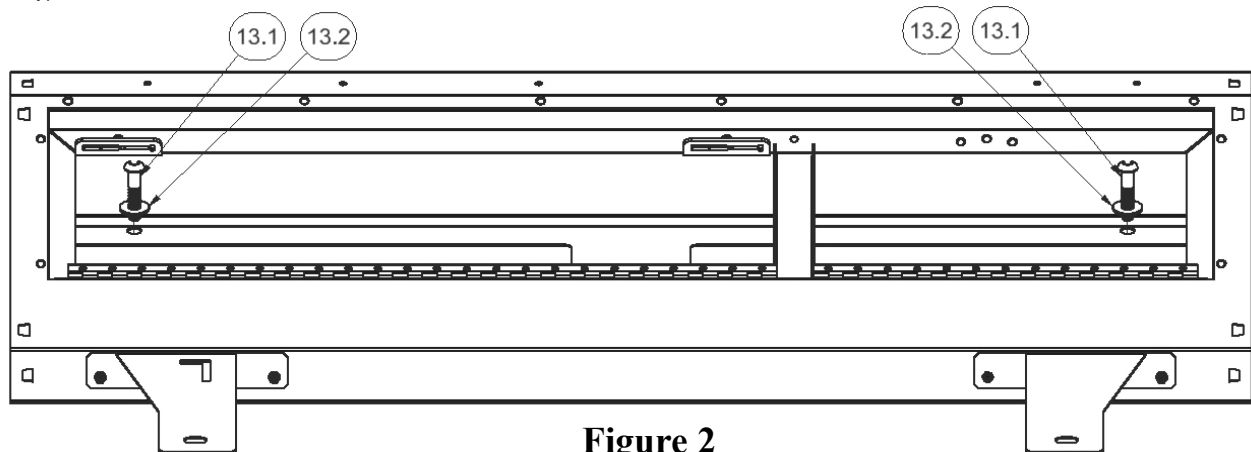

Figure 2
4. Remove the (7) Factory Rubber Bumpers from the top of the plastic storage enclosure. Five (5) are located at the top of the plastic enclosure, and two (2) are found at the rear on either side, near the rear mounting points. **NOTE:** The five (5) on top will be reused on the #343 Lockbox.
5. Remove the (4) Factory Plastic Carpet Anchors (located in the small cubbies on the left and right side of the plastic enclosure) from the carpet by applying upwards pressure, while unscrewing them. **NOTE:** These parts cannot be separated from the plastic enclosure and attempting to do so will damage them.
12. Install, but do not tighten (2) #13.1 Cap Screws, and (2) #13.2 Flat Washers at the front of the #343 Enclosure. **Note: Figure 2** (Lids removed for clarity).
2. Remove the (7) Factory Rubber Bumpers from the top of the plastic storage enclosure. Five (5) are located at the top of the plastic enclosure, and two (2) are found at the rear on either side, near the rear mounting points. NOTE: The five (5) on top will be reused on the #343 Lockbox.
4. Remove the (2) OEM hex nuts under the back of the seat and the (2) Torx nuts at the front feet of the metal frame and set aside the metal frame.
8. Install, but do not tighten (2) #13.1 Cap Screws, and (2) #13.2 Flat Washers at the front of the #343 Enclosure. **See Figure 2.**
10. Reinstall (5) of the Factory Rubber Bumpers (removed in Step #4) using the factory hardware.